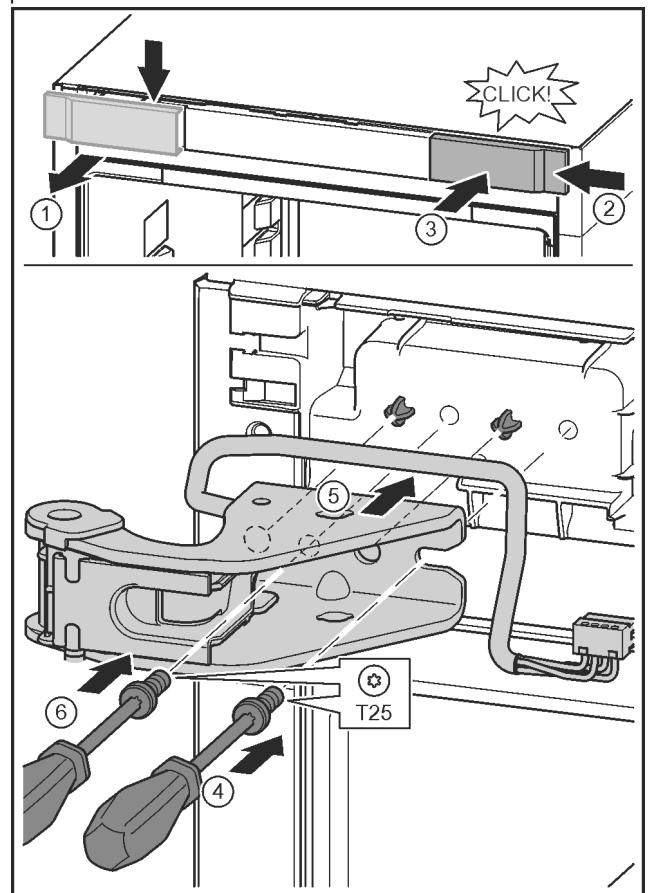

Fig. 28
- ▶ Release the cover and remove from the side. Fig. 28 (1)
- ▶ Rotate the cover 180° and clip onto the other side from the right. Fig. 28 (2)
- ▶ Click the cover into place. *Fig. 28 (3)*
- ▶ Position the screw with a T25 screwdriver. *Fig. 28 (4)*
- ▶ Position the upper bearing bracket. *Fig. 28 (5)*
- ▶ Tighten the screw. *Fig. 28 (4)*
- ▶ Insert the screw with a T25 screwdriver and tighten. *Fig. 28 (6)*